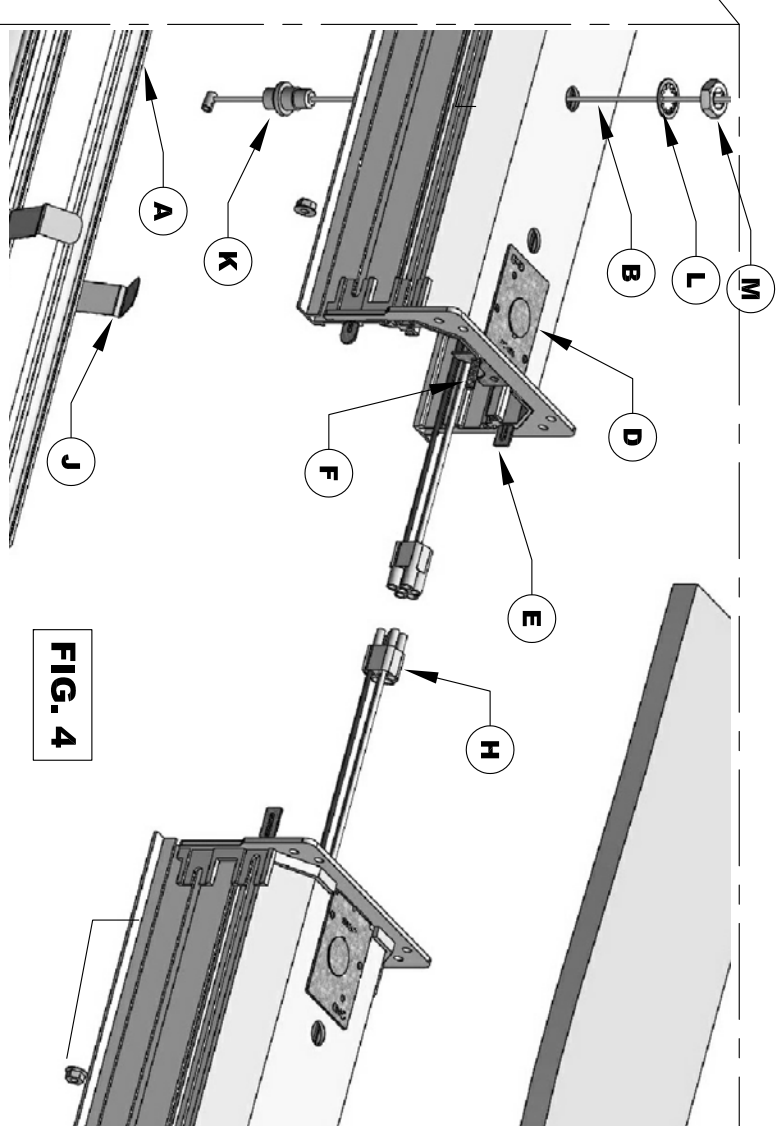

FIG. 4
POSITION NEXT FIXTURE SUCH THAT THE ALIGNMENT TABS (REF. FIG.4)(E) FIT INTO THE FIRST FIXTURE. MAKE CONNECTION OF THE WIRE HARNESS (H) AND PUSH EXCESS WIRE BACK INTO THE FIXTURE. MAKE SURE WIRE IS NOT PINCHED BETWEEN JOINT AND SLIDE FIXTURES TOGETHER. DRAW FIXTURE UP TO THE CEILING BY HOLDING LOWER END OF CABLE AND RAISING FIXTURE SNUG AGAINST CEILING. DRAW FIXTURES SNUGLY TOGETHER HORIZONTALLY BY TIGHTENING THE TWO 1/4-20 NUTS ONTO THE STUDS (F) PROTRUDING FROM ACCESS PLATE.